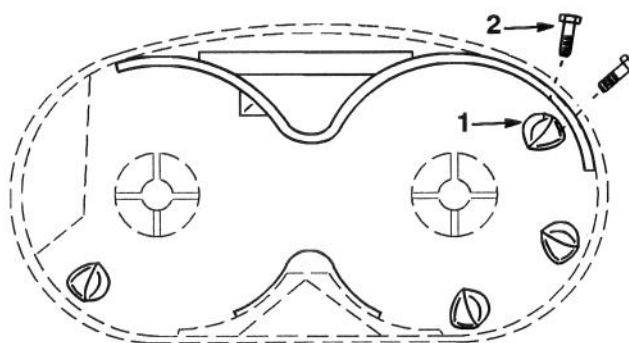

Figure 3
1. Install kicker plates with holes toward top of deck using #8 x $\frac{5}{8}$ " screws (Fig. 3). Screws are installed from top of deck. Long slope on kickers must be positioned in a clockwise direction as viewed in Figure .